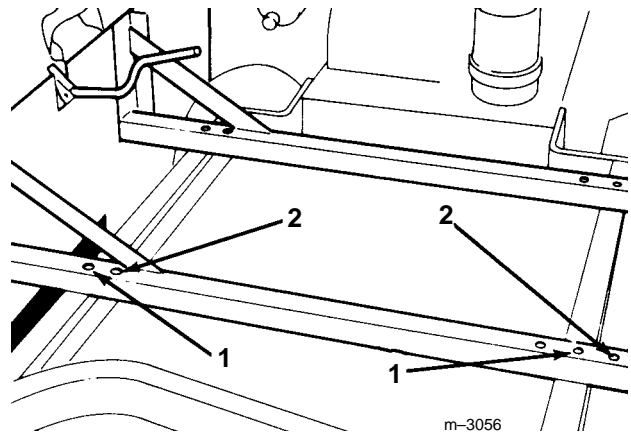
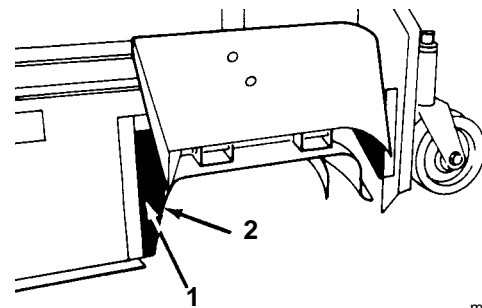
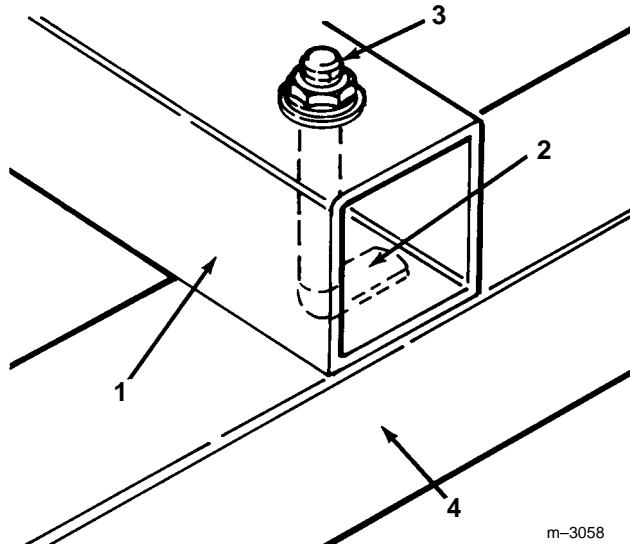

Figure 4
Figure 5
Figure 6
1. Position the back panel and mounting beam assembly onto the cutting deck and carrier frame (Fig. 4). The rubber extension should be touching the back edge of the discharge opening (Fig. 5).
1. Insert the flat end of the curved screw into one of the holes in the carrier frame for the rear mounting beam (Fig. 6).
2. Insert the threaded end of the curved bolt through the appropriate hole in the rear mounting beam and secure it with a 3/8" washer and 3/8"-16 locknut (Fig. 6).
2. Remove the bolts, washers, and nuts securing the mounting beams to the carrier frame, remove the mounting assembly, and re-thread the bolts, washers, and nuts into the mounting beams (Fig. 4 and Fig. 6).